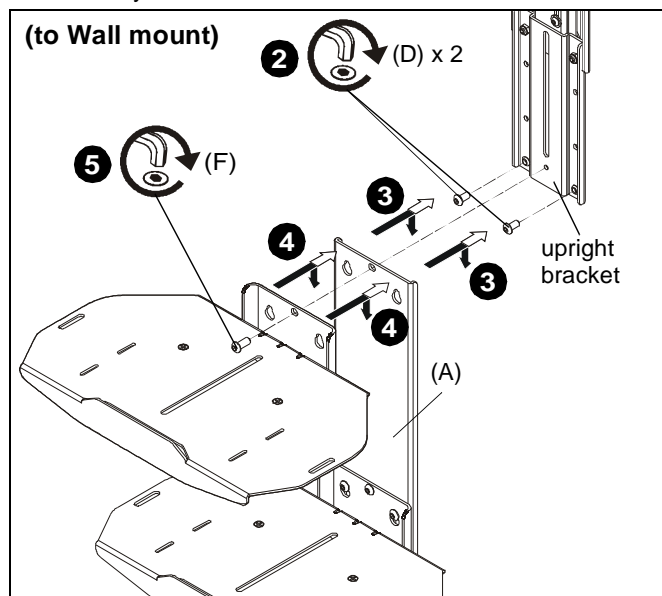
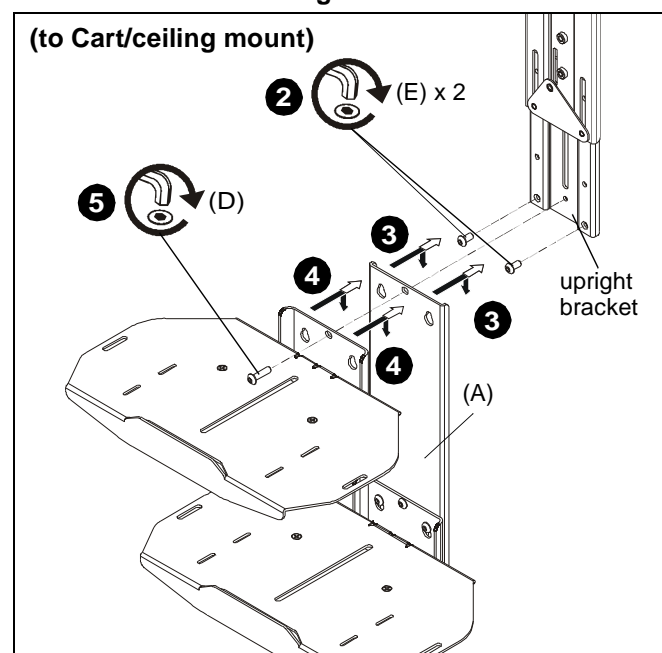

Figure 3
Figure 4
2. Loosely install two 1/4-20 x 5/8" button head cap screws (D) into outside holes of upright bracket if installing to wall mount. Loosely install two 1/4-20 x 1/2" button head cap screws (E) into outside holes of upright bracket if installing to cart/ceiling mount. (See Figure 3) or (See Figure 4)
3. Hang assembled FCA870 shelf onto two screws installed in Step 2. (See Figure 3) or (See Figure 4)
4. Hang shelf removed in Step 1 onto two screws installed in Step 2. (See Figure 3) or (See Figure 4)
5. Use 1/4-20 x 3/8" button head cap screw (F) to secure shelves to upright bracket if installing to wall mount. Use 1/4-20 x 5/8" button head cap screw (D) to secure shelves to upright bracket if installing to cart/ceiling mount. (See Figure 3) or (See Figure 4)